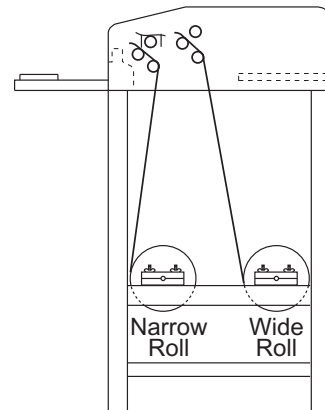

Fig. 3
8. Replace film shaft with film onto the lower bearing blocks so that the film will unwind from the top of the roll and toward the rear of the hand wrap station as shown in Fig. 3. Swing the upper bearing blocks back into place.
9. Route the film around the roller(s) as shown in Fig. 3.